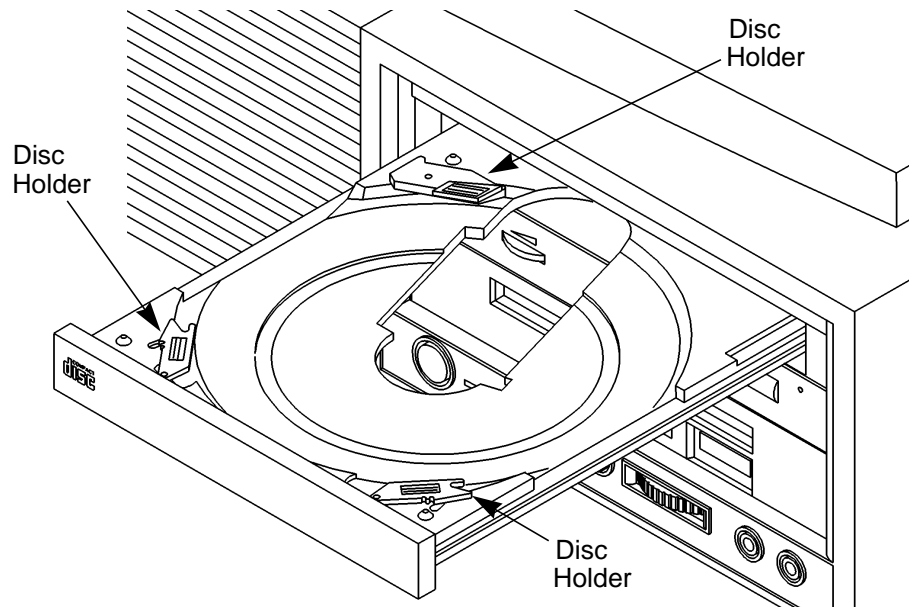

Figure 8
This CD-ROM is designed to be used in either the horizontal or vertical position, depending on whether your system unit is horizontal or vertical (in the floor stand). The disc tray has three spring-loaded disc holders that hold the disc in place when the CD-ROM drive is in the vertical position. When the drive is in the horizontal position, the disc holders are not used and are held out of the way by three disc holder retainers. Figure 8 shows the CD-ROM disc tray, and disc holders.
- 4 Hold the disc by the edges with the label side up and place it in the disc tray as shown in Figure 8.